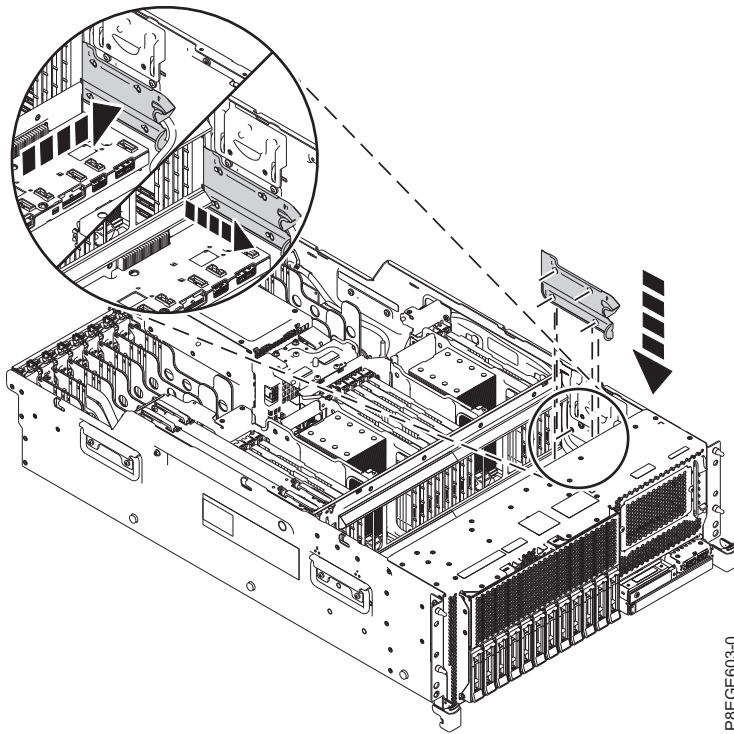

Figure 101. Replacing the USB cable cover
27. Replace the USB cable cover by inserting the slots on the cover over the pins on the chassis. Grasp the top handle of the cover and pull the cover toward the front of the system. Pull the cover forward until the slots are seated on the pins and the top handle of the cover latches. See Figure 101 on page 100.